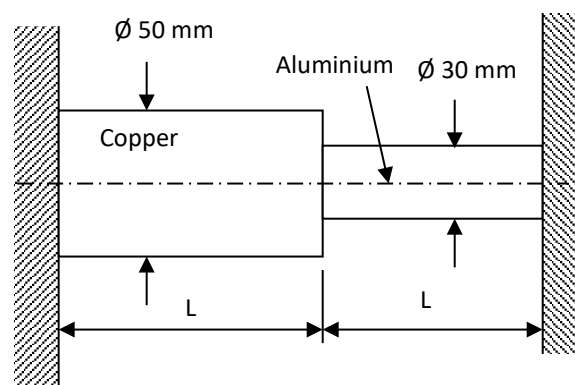

Figure 1(c)/ Rajah 1(c)
- (c) As shown in **Figure 1(c)**, a compound bar rigidly mounted on each end. Calculate the stress in each bar when the temperature in assembly is increases to 100°C.